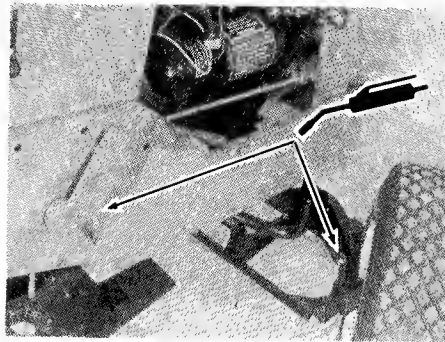

Figure 4. Grease Fittings
- a. One fitting in each front axle spindle (right-hand spindle shown in figure 4).
- b. One fitting on clutch-brake pedal (figure 4);